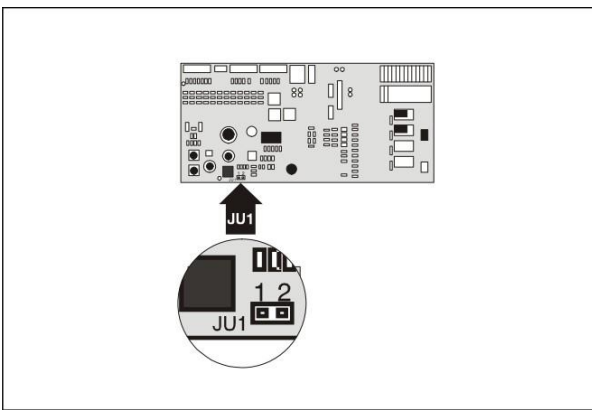

Figure 4: Ventilator Voltage Setting
- e. If two detector heads are being fitted, remove the jumper JU4 from the base board (see Fig 4).
- g. Set the ventilator voltage (See Fig 4) as specified by the TranspTimeTITANUS calculation. Remove the jumper for higher 9V operation and leave in for 6.9V (default).